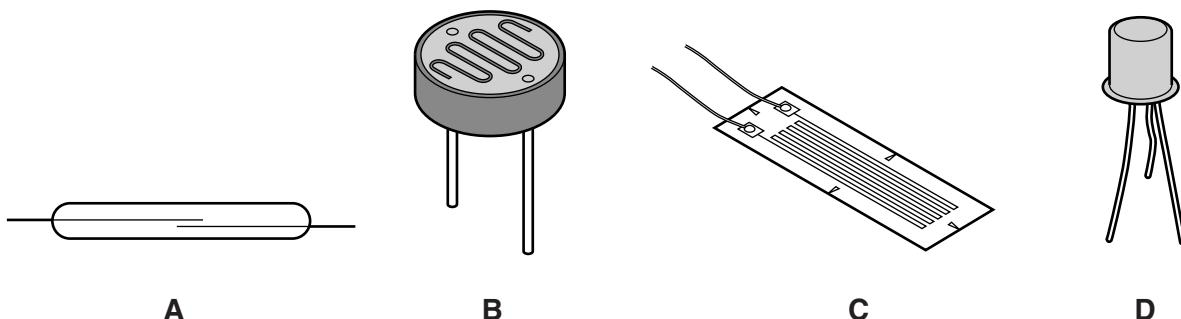

Fig. 3
- 5** Fig. 3 shows four electronic components.